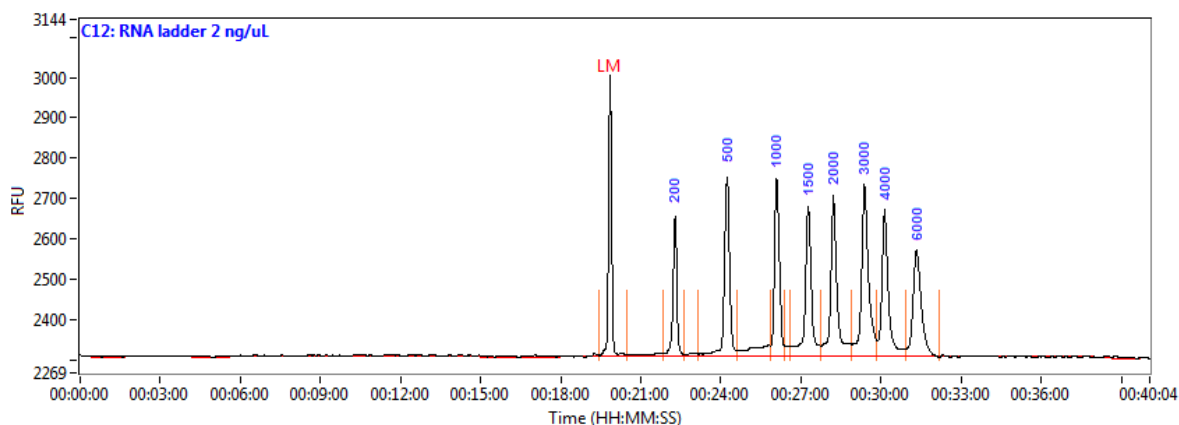

Figure 12. Representative High Sensitivity RNA ladder result using *Fragment Analyzer*™ system with the DNF-491 High Sensitivity RNA Analysis Kit.
- The data should be normalized to the lower marker (set to 20 nt), and the size and quantification calibrated to calibrated to the RNA Ladder run in parallel to the samples. Figure 12 shows the typical result for the High Sensitivity RNA Ladder. A total of 9 peaks should be observed.
Figure 12 shows the typical result for the High Sensitivity RNA Ladder from a 33 cm effective, 55 cm total “short” capillary array. **The initial concentration of the ladder is 2 ng/μL (final concentration of the ladder after mixing with DM is 0.2 ng/μL).** A total of 9 peaks should be observed with the sizes annotated as in Figure 12. The first peak corresponds to the 20 nt lower marker peak (LM).